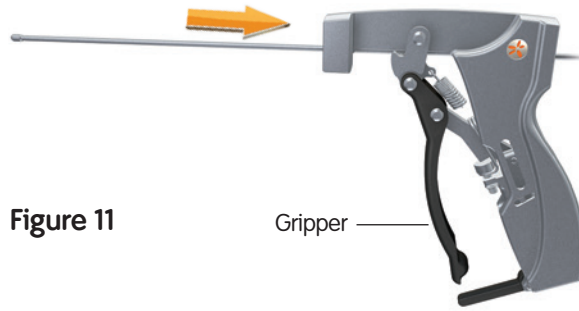

Figure 11
2. Insert the smooth end of the 3.0mm Ball Tip Guide Rod (71631626) into the front of the Gripper (Figure 11).